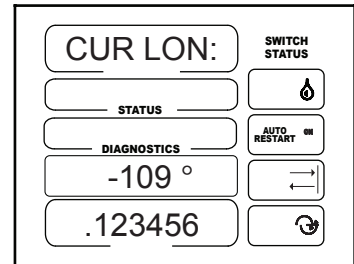

Figure 45-3
1. CUR LON: and GPS coordinates should be displayed. See figure 45-3.